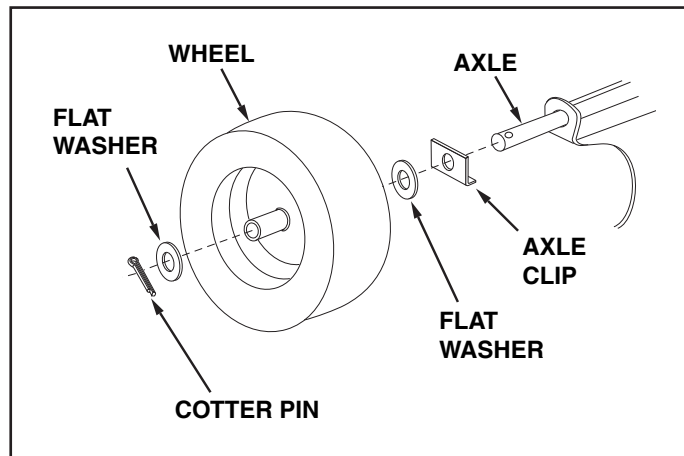

FIGURE 10
17. Assemble a flat washer, a wheel with the valve stem facing out, another flat washer and an axle clip onto the axle as shown in figure 10. Secure the wheel on the axle with a cotter pin, spreading the ends. Repeat on other end of axle.